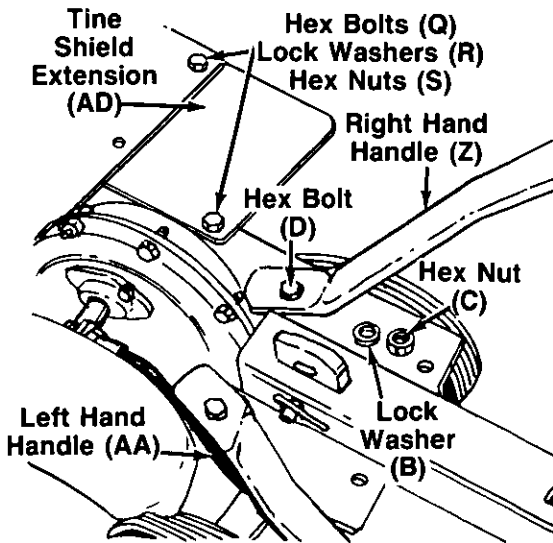

FIGURE 8.
8. Attach the tine shield extension (AD) to the tine shield and frame on the right side of the unit as shown in figure 8. Secure with hex bolts (Q), lock washers (R) and hex nuts (S). Tighten securely.
9. The left handle has a clutch grip already assembled to it. Assemble the left and right hand handles (AA and Z) to the rear tiller frame as shown in figure 8. Secure with hex bolts (D), lock washers (B) and hex nuts (C), finger tight only (do not tighten).